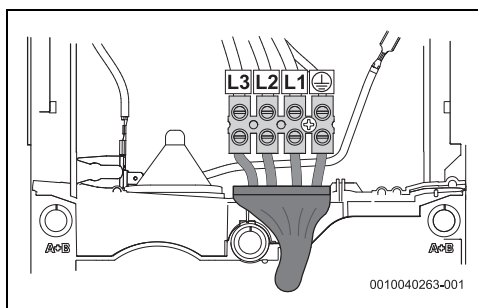

Fig. 35 Lower connection for short cables
- Lower connection for short cables (Fig. 35)